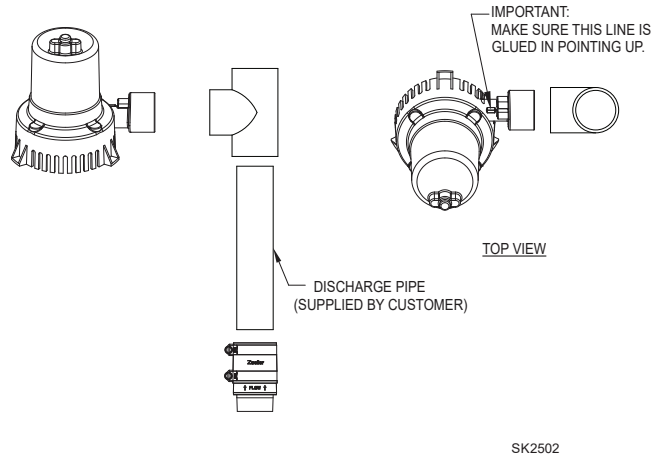

FIGURE 4
- Solvent weld DC pump to tee at a 30 degree angle as shown in Figure 4. Install in-line check valve into primary pump discharge.
- Determine the position of the DC pump and measure between the in-line check valve and tee. Use that measurement to cut discharge pipe. Solvent weld that piece first to the tee. Measure, cut & solvent weld any remaining discharge piping above the tee. Finally, connect the discharge pipe to the in-line check valve and tighten hose clamp. See Figure 4.
▲ IMPORTANT To minimize risk of air lock, intake of DC pump must be set at a 30 degree angle above the intake of the primary pump. See Figure 4.